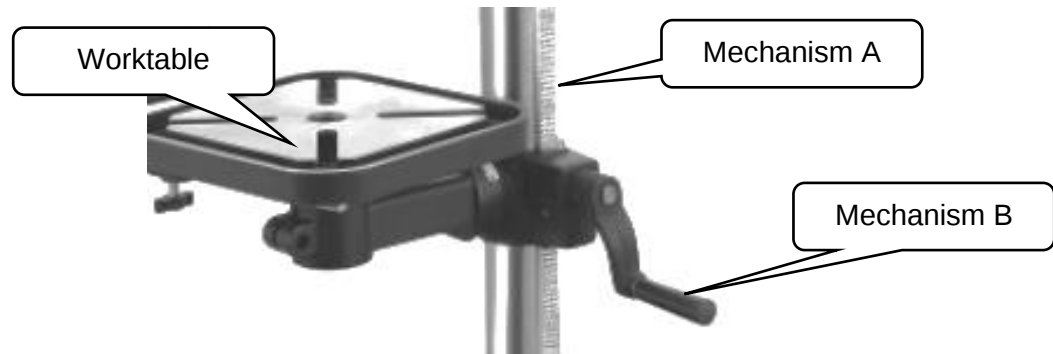

Fig. 3.1
Fig. 3.1 shows a close-up view of the mechanism used to move the worktable of a drilling machine.
- (iii) The control system used in Fig 3.1 is an open loop system.